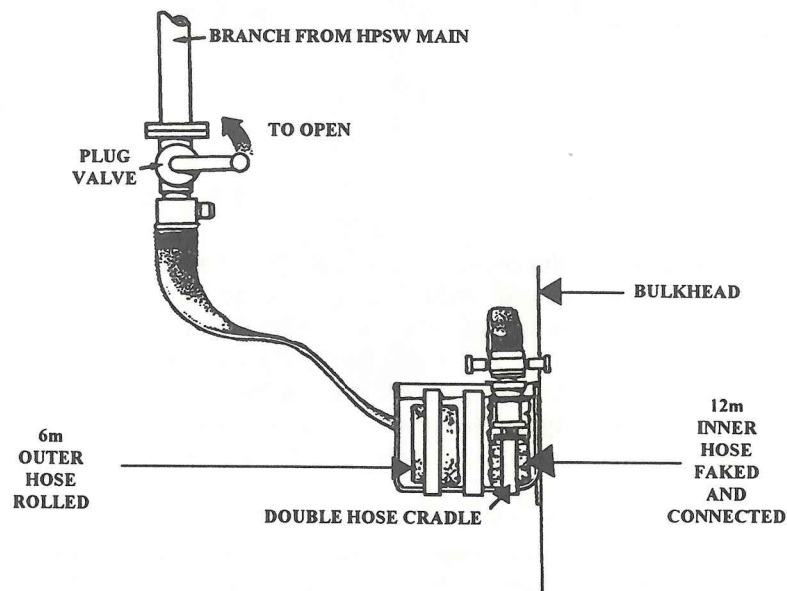

Fig 5-8. Stowage of Hoses
- a. Hoses are to be faked out in their stowages ready for running out (see Fig 5-8). Where double hose baskets are fitted the hose in the section of the basket closest to the bulkhead must be faked and the hose in the basket furthest from the bulkhead rolled.